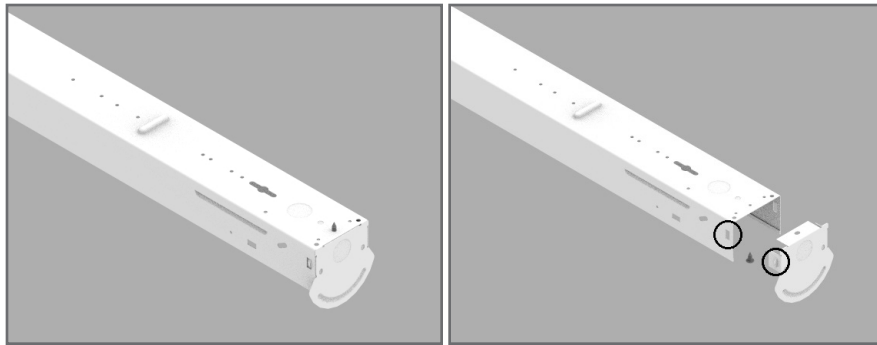

FIGURE 19
2. Remove the screw in the metal end cap, then push the housing outward at the snap detail location and remove the metal end cap wherever two luminaires are intended to meet. The snap detail is circled in Figure 19.